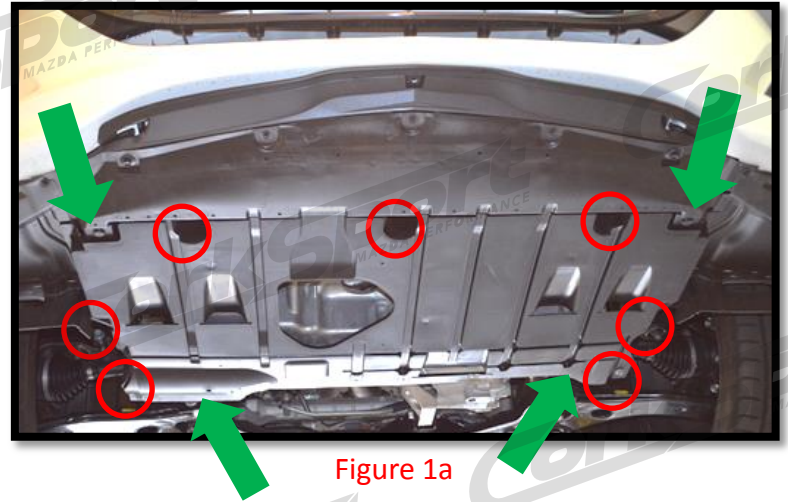

Figure 1a
- b) Remove the splash tray (Figure 1a).
- b) Remove the splash tray. Use a 10mm socket wrench to remove the seven (7) bolts (red circles) and pry out the two (2) push clips with a flat blade screw driver (green arrows in Figure 1a).